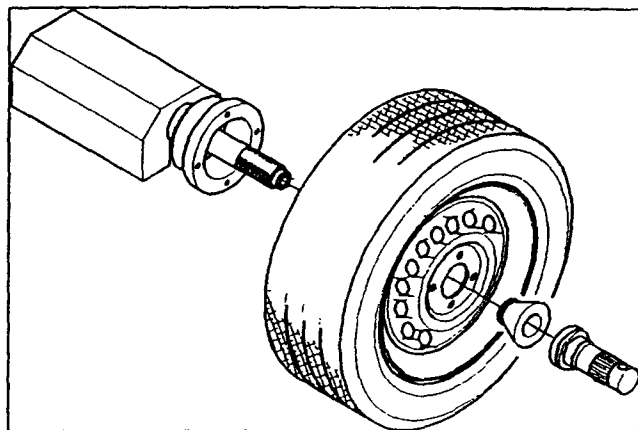

Fig.23
B. Mount the wheel and slide the cone onto the shaft of the balancer (Fig.23). Tighten the nut firmly.